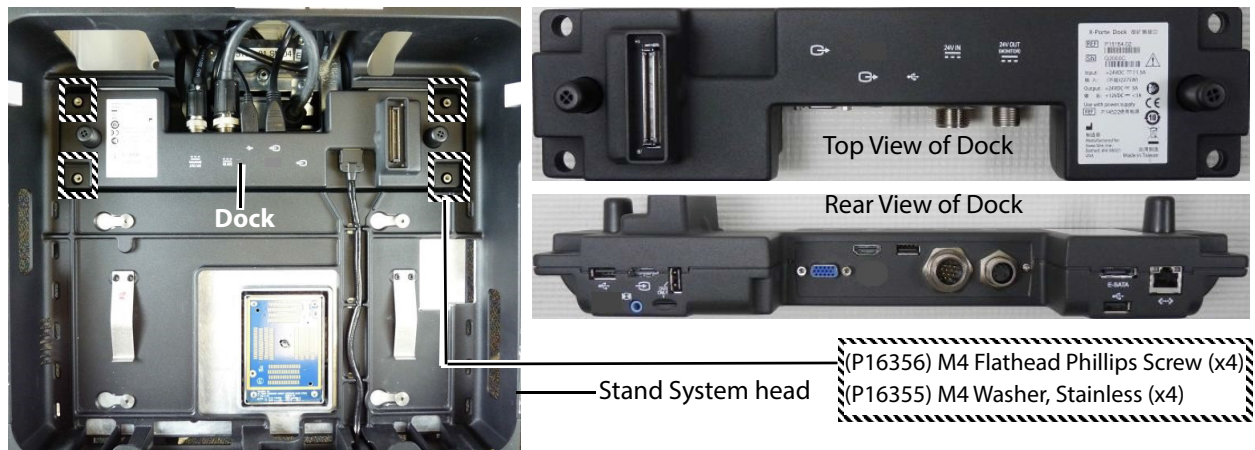

Figure 6.8 Dock Cabling
- 5 Remove the four M4 flathead Phillips screws (P16356) and the four M4 stainless steel countersunk washers (P16355) from the Dock mounting posts located inside the Stand System head area. Refer to Figure 6.8 on page 41
- 1 Hold the Dock above the four mounting posts referencing Figure 6.8 and Figure 6.6.